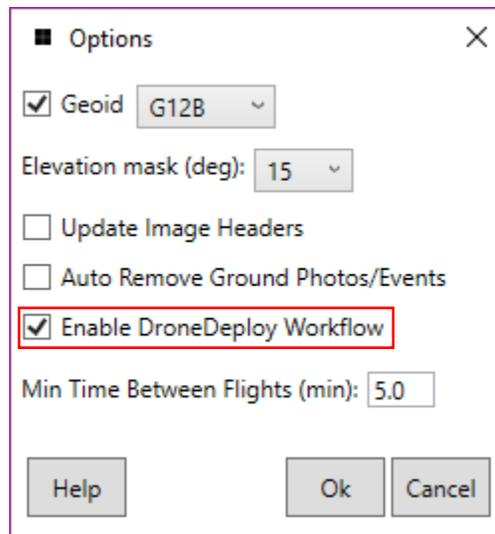

Figure 33- Enable DroneDeploy Workflow
8. *Enable DroneDeploy Workflow* will automatically add and remove EXIF fields required in a DroneDeploy workflow (Figure 33). DroneDeploy is a cloud-based service which allows users to upload their georeferenced image data to generate orthophotos and point clouds. **Note:** You must have *Update Image Headers* checked for the DroneDeploy workflow to work.